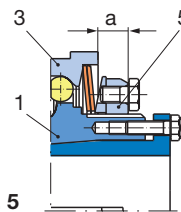

Fig. 5
EAS[®]-compact[®] ratchetting and synchronous clutch (Sizes 01 - 3): Dimension “a” is the distance between the adjusting nut facing-side (5) to the thrust washer facing-side (3) (Fig. 5).